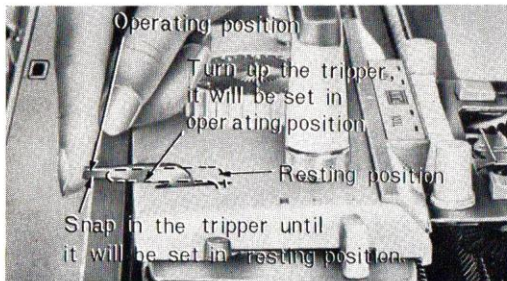

Fig. 14
- c. To set the row counter out of operation snap in the row counter tripper toward you. (See Fig.14)